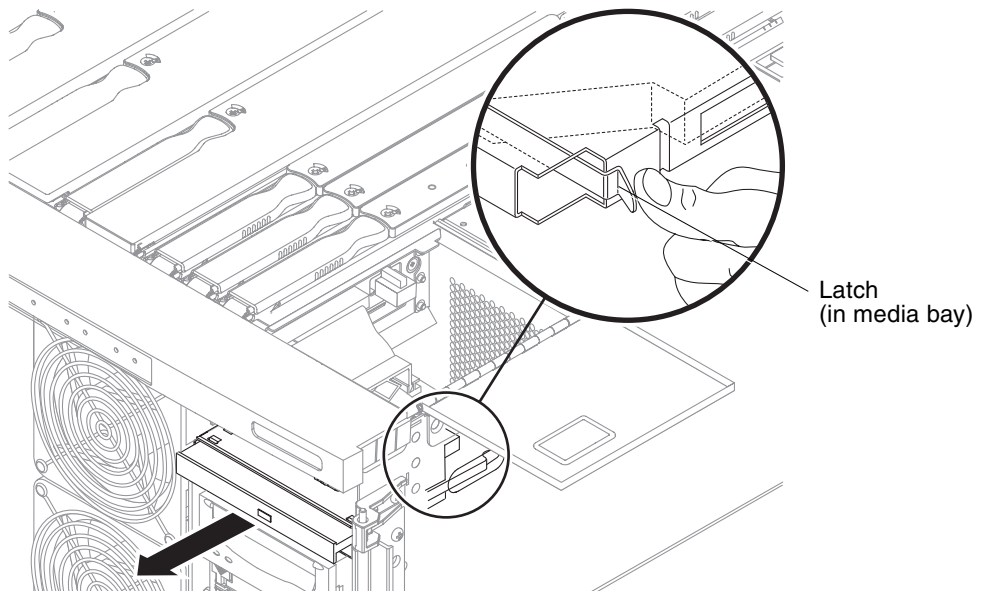

FIGURE 5-17 Removing the DVD-ROM Drive
5. Inside the media bay, push the metal latch to the right (**FIGURE 5-17**). The latch retains the drive.
6. Disconnect the DVD-ROM drive from the backplane connector. Firmly pull the DVD-ROM drive from the front of the system (FIGURE 5-17).